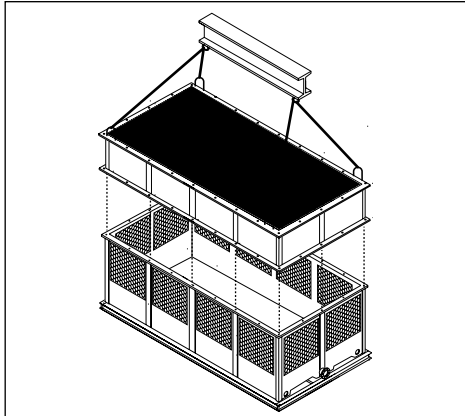

Figure A-18: Lower body installation for a Two Fan Tower (RT-D or RTP-D)
- J. **Only if your Tower is an RT-D or RTP-D model:** It includes additional part of body section (Lower Body section). Place Lower Body section on top of basin section, then bolt down and secure the horizontal flanges with the stainless steel nut and bolt sets supplied by REYMSA (see figure A-18).